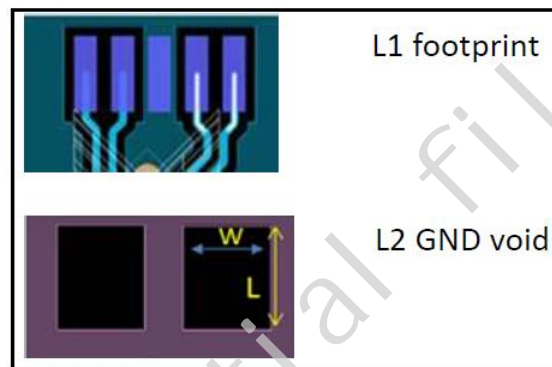

Figure 9. SFP+ Connector Footprint Voiding
- The biggest discontinuity of impedance occurs at the connector; use ground voiding under the connector footprint to mitigate the effect. The void for tx & rx differential pair pins of SFP+ connector is shown in Figure 9